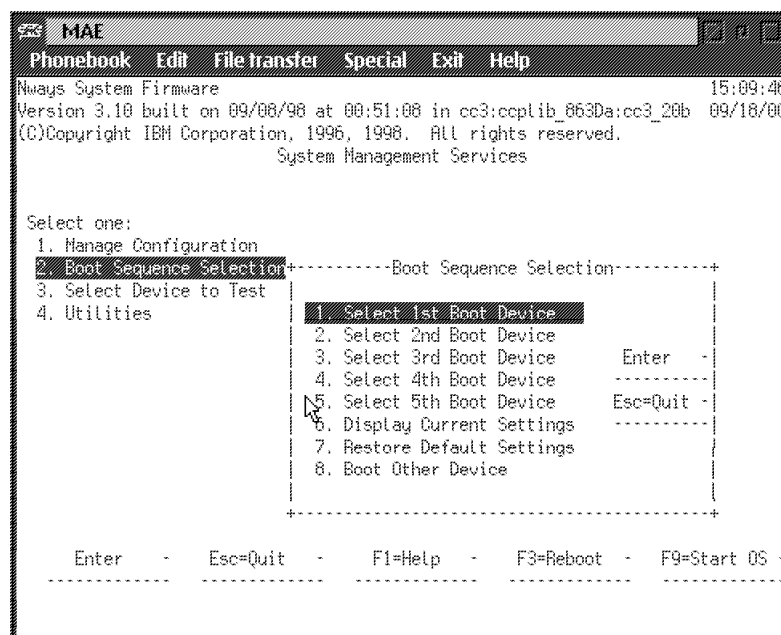

Figure 5-3. Boot Sequence Selection
- 2 The Boot Sequence Selection panel is displayed as shown in Figure 5-3.